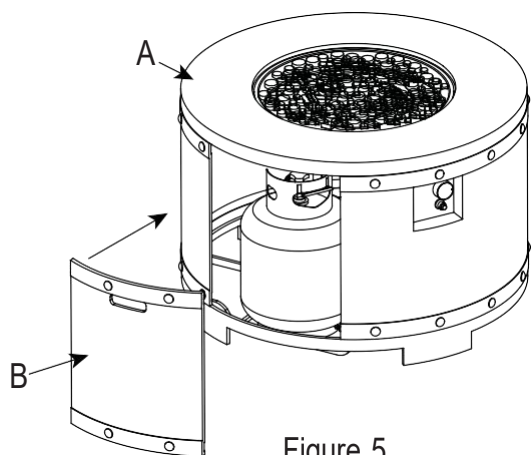
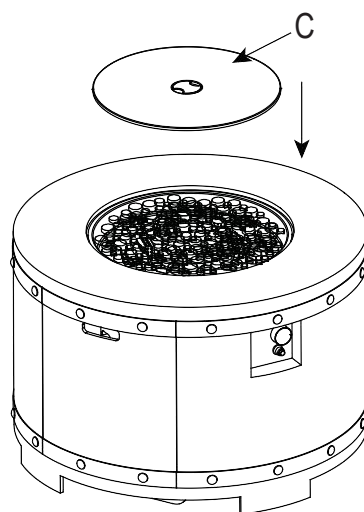

Figure 5
Figure 6
4. Attach the door (B) with fire table (A) tenderly (see Figure 5). Place the Lid (C) onto the fire bowl when not in use to protect it from the elements or when fire pit is cool COMPLETELY after the use (see Figure 6).